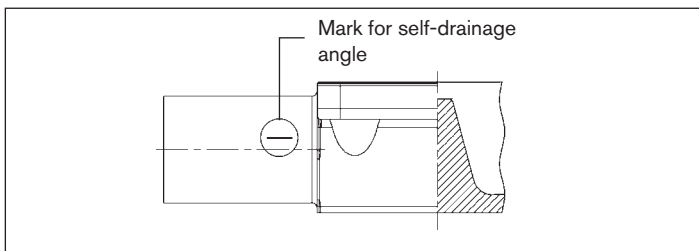

Fig. 13: Mark for the correct installation position
- Observe an inclination angle of  $1^\circ - 5^\circ$ . Forged and cast bodies feature a mark which must face upwards (12 o'clock position, see “Fig. 13”).